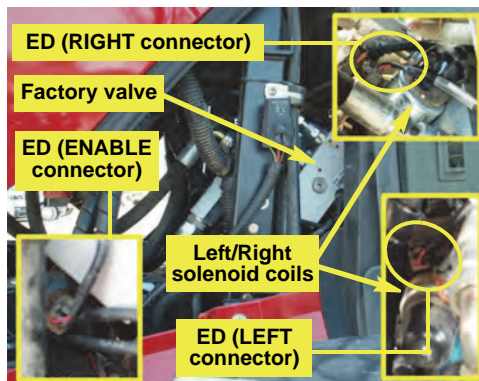

Figure 2-i with insets: Connections at factory autosteer valve
- **ED**'s 'LEFT' to FAV's "TURN LEFT (BOTTOM)" (at bottom solenoid coil connector, Figure 2-i, bottom right inset)
- **ED**'s 'ENABLE' to FAV's "ISOLATION (MANIFOLD)" (at base of FAV, Figure 2-i, bottom left inset)